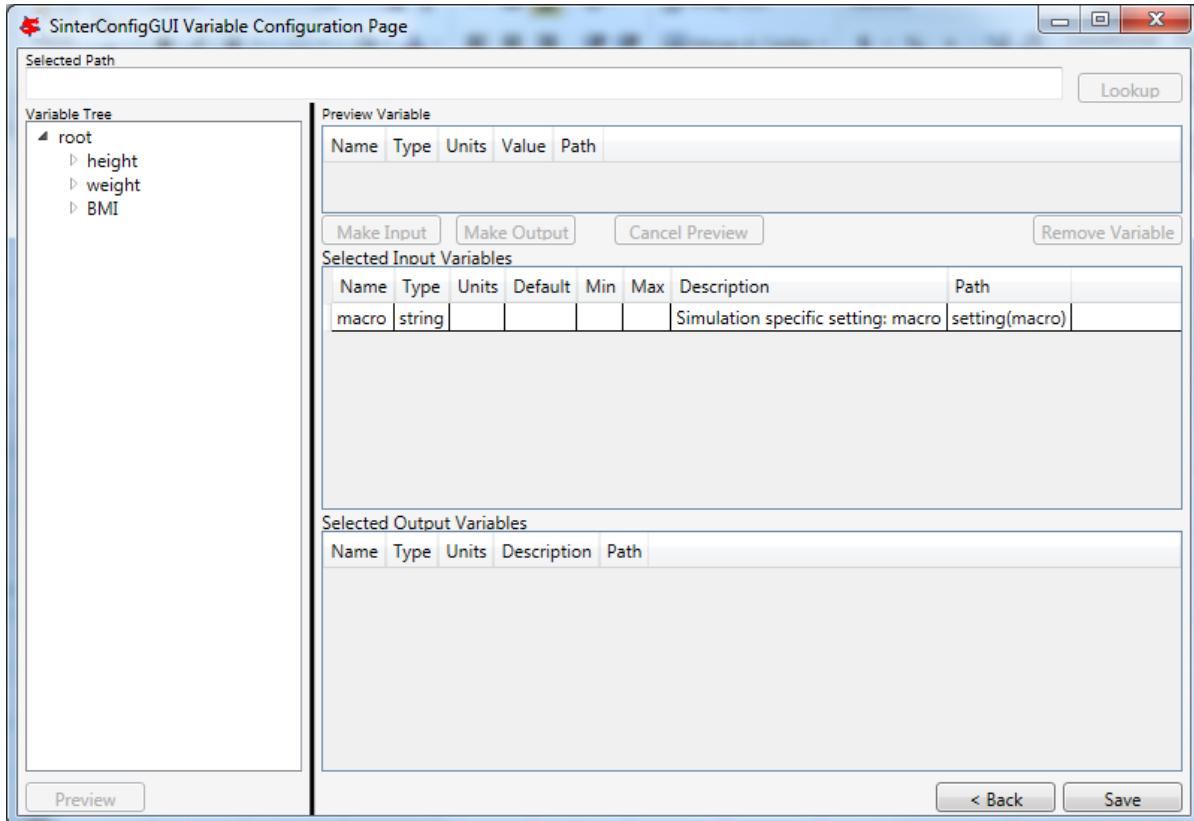

Figure 32: SinterConfigGUI Variable Configuration Page window.
3. The SinterConfigGUI Open Simulation window displays as shown in Figure 32. Click “Browse” to select the file to open, or type a filename in and click “Open File and Configure Variables” to open the file. The user can either open a fresh ACM simulation (.acmf file) or an existing Sinter configuration file. In these instructions, the ACM test included in the SimSinter installation at C:\SimSinterFiles\ACM_Dynamic_Test\BFB.acmf is opened.